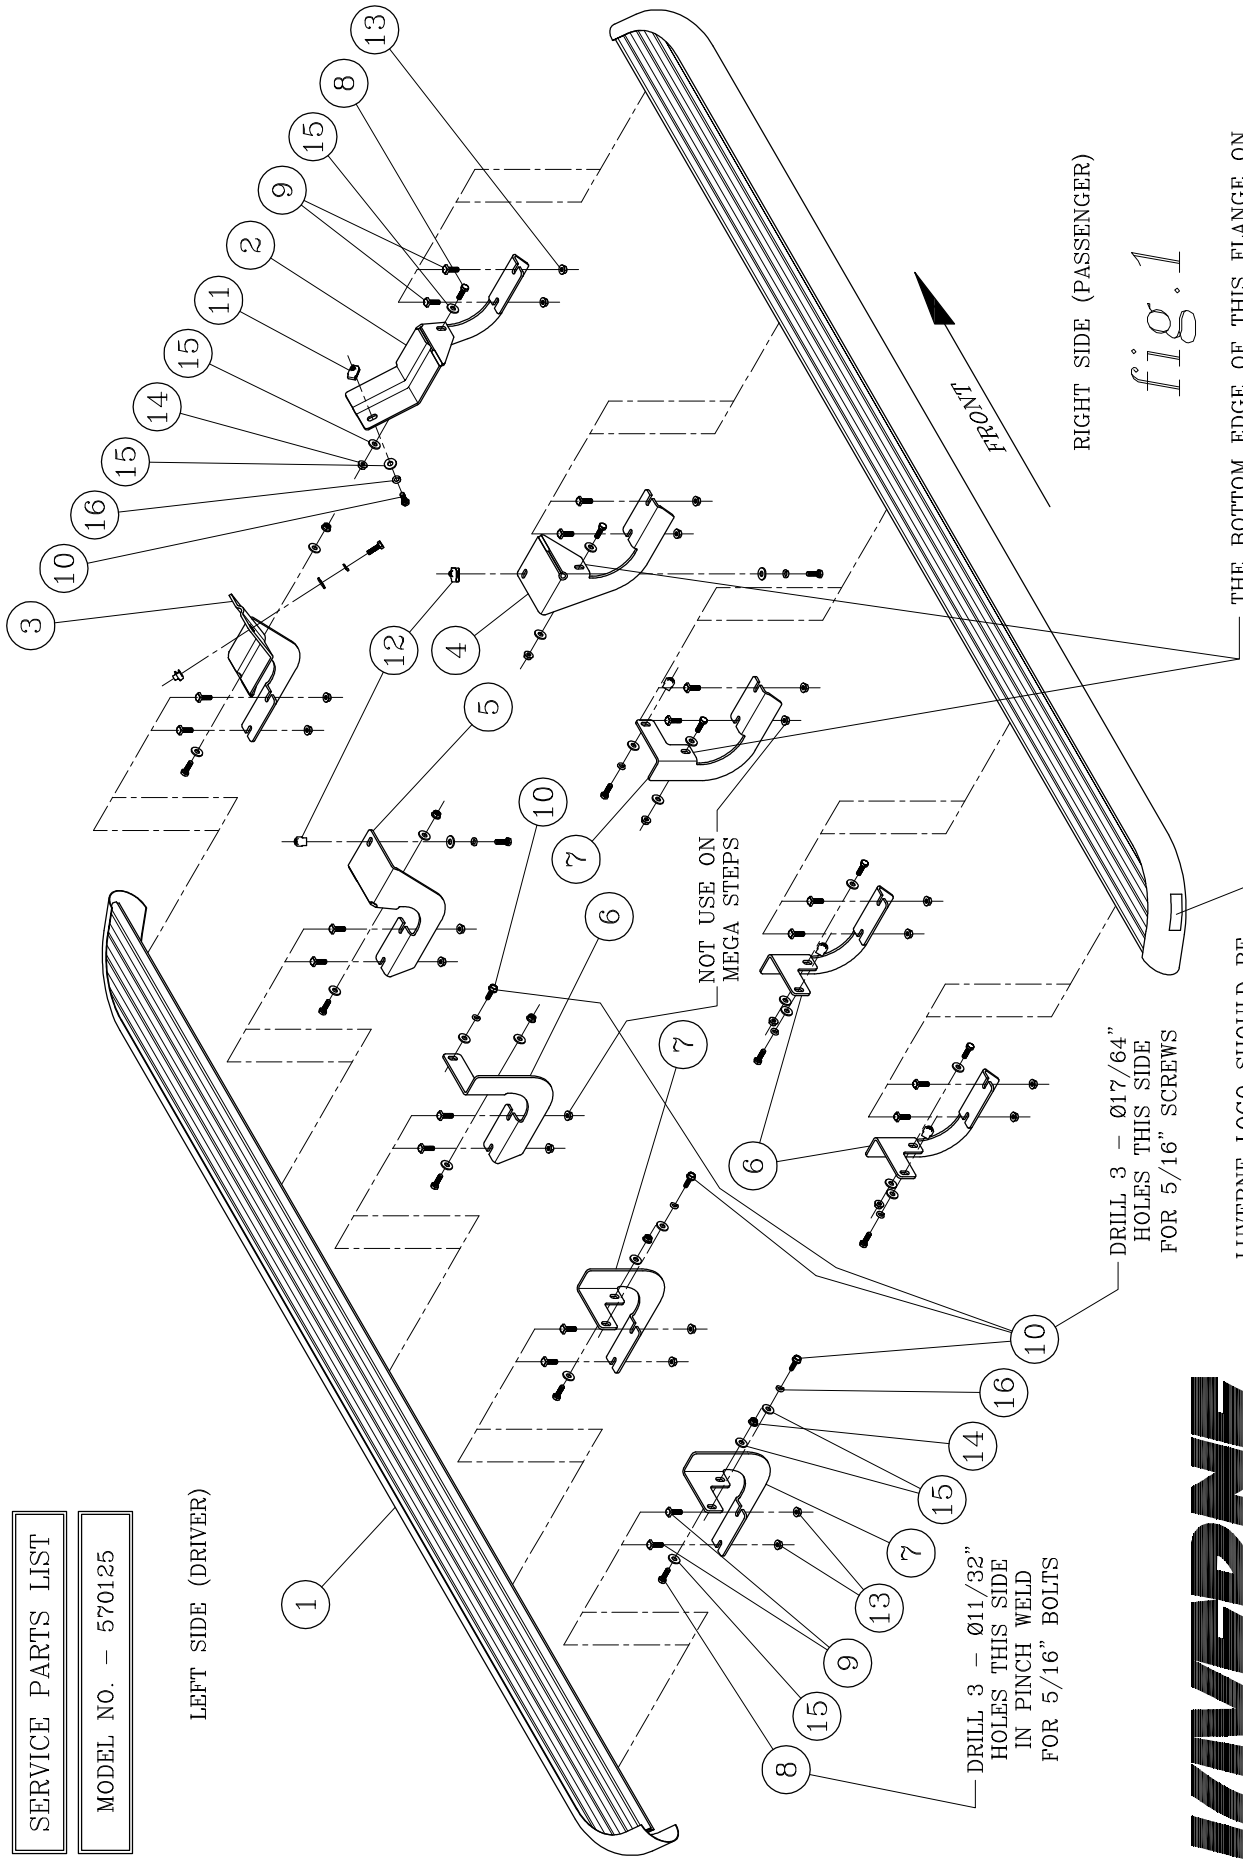

fig. 1
3. INSTALL THE MOUNTING BRACKETS (ITEMS #2, #4, #6 & #7) USING THE 5/16-18 X 1" HEX BOLTS (ITEM #8), 5/16" FLAT WASHERS (ITEM #15) AND 5/16" LOCK WASHERS (ITEM #16) AS SHOWN IN FIG. 1. INTO THE MULTI THREAD U-NUTS. FINGER TIGHTEN ONLY AT THIS TIME.
4. INSTALL THE 5/16-18 X 1" HEX BOLTS (ITEM #8), 5/16" FLAT WASHERS (ITEM #15) AND BLACK PLATED 5/16" SERRATED FLANGE NUTS (ITEM #14) THROUGH THE HOLES IN THE LOWER PINCH WELD AND THE BRACKET AS SHOWN IN FIG. 1. FINGER TIGHTEN ONLY AT THIS TIME.
11. MOUNT ONE OF THE (ITEM #6) BRACKETS TO THE END OF THE STEP PLATE AS SHOWN IN FIG. 1. (**NOTE:** THE HOLES THROUGH THE FLANGE OF THE THREE REAR BRACKETS SHOULD BE 51-1/2", 73-1/4" AND 92-1/8" FROM THE FRONT. CHECK THE PASSENGERS SIDE OF THE VEHICLE FOR THE LOCATIONS.
16. USING THE TOP HOLES IN THE BRACKET AS A GUIDE, DRILL Ø17/64" HOLES THROUGH THE INSIDE BODY PANEL AND INSTALL THE 5/16 X 1" WASHER HEAD SCREWS (ITEM #10), 5/16" FLAT WASHERS (ITEM #15) AND 5/16" LOCK WASHERS (ITEM #16) AS SHOWN IN FIG. 1.